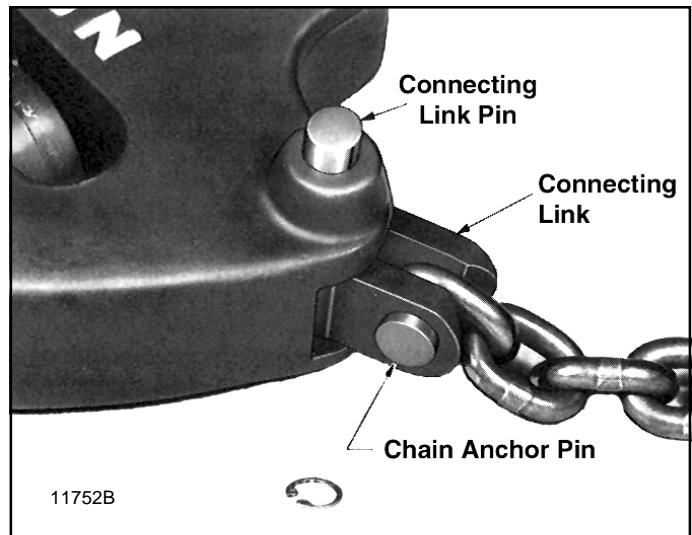
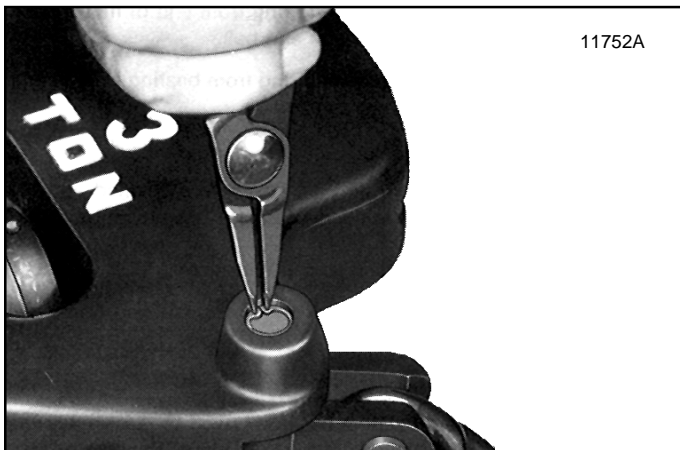

Figure 7-28. Removing Connecting Link Pin From Triple Reeved Lower Block Assembly
Figure 7-27. Removing Retaining Ring From Bore of Connecting Link Pin - Triple Reeved Lower Block Assembly
(1) Remove chain sprocket from lower block following procedure for double reeved models described in Paragraph 7-5.b.(1) above.
(2) To disconnect end of chain anchored to lower block, remove retaining ring from pin bore (Figure 7-27). Push connecting link pin from bore by pressing through hole provided in opposite side of block (Figure 7-28). Chain connecting link is now free and can be further disassembled for inspection.
(3) To remove hook from lower block body, first drive grooved pin from hook nut. Then hold nut from turning using drift punch and rotate hook to unscrew it from nut. Separate hook, shroud and thrust washer from body. Note that bearing surface of washer faces nut.
(4) To remove chain sprocket from upper suspension hanger, first remove hanger as outlined in Paragraph 7-2.a.(4). With hanger removed, push sprocket pin from hanger and sprocket. Note: Sprocket pin must be removed toward side having small anti-rotation pin slot in hanger.